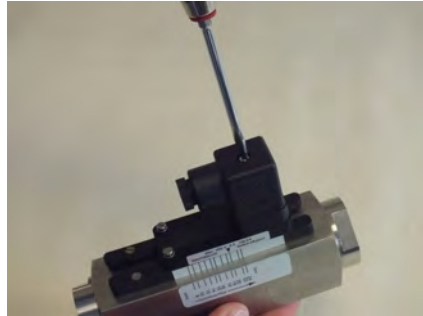

Fig. 20: Detach socket
1. Release the fixing screw (Fig. 20) from the socket
9. → Place the female socket onto the connecting plug and tighten the fixing screw (Fig. 20/1)